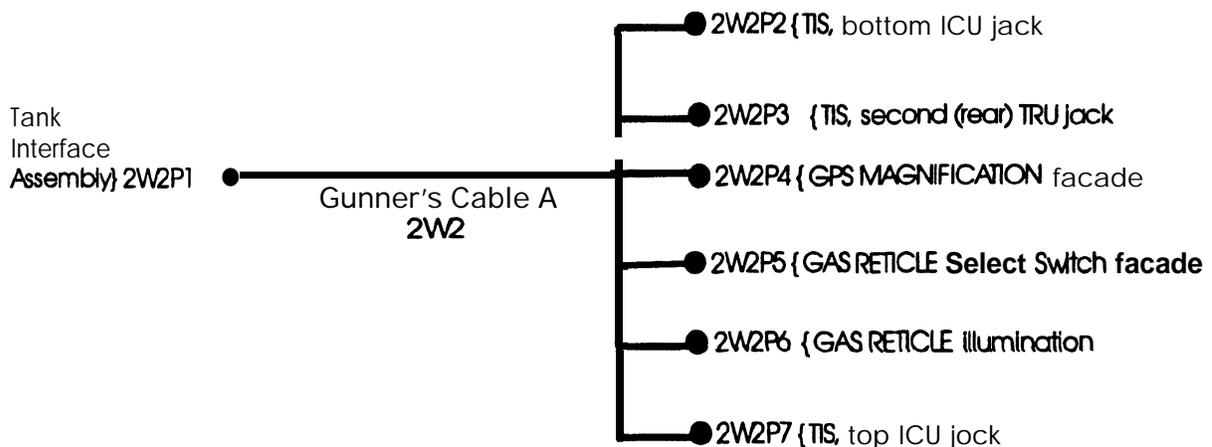

Figure 2-46. Gunner's Crew Station Cable 2W2 Wire Diagram
2.4.7.4.1.12 Gunner's Crew Station Cable 2W2 Initial Position. Position the Gunner's Crew Station cable 2W2 to make the connections shown in Figure 2-46 as follows: